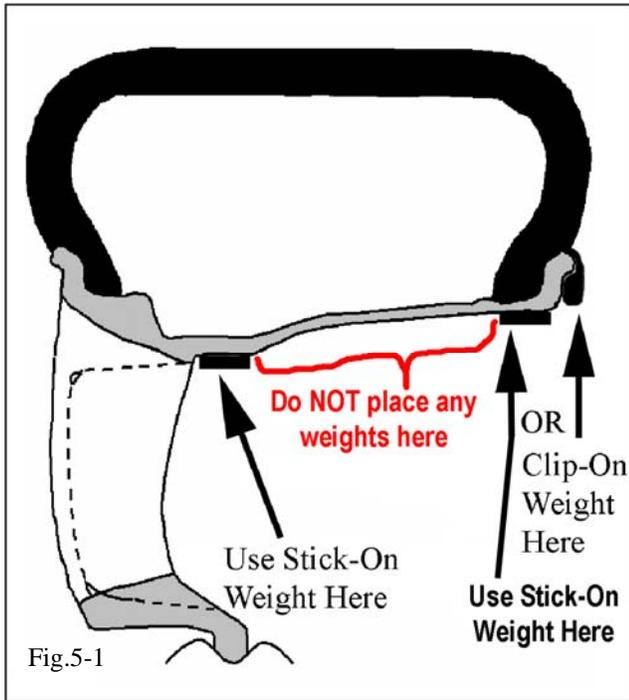

Fig.5-1
- (a) Mount wheel/tire on wheel balance machine & balance in **DYNAMIC MODE**. Enable the **LOAD ROLLER**, if applicable, to ensure proper bead seating. Use 3M brand TN-4023 or equivalent low-profile stick-on type weights. (Figs. 5-1, 5-2, & 5-3) Weights should be no taller than 4 ~ 5 mm in height. **DO NOT stack weights on top of each other, nor side by side. This is REQUIRED for proper brake caliper clearance.**